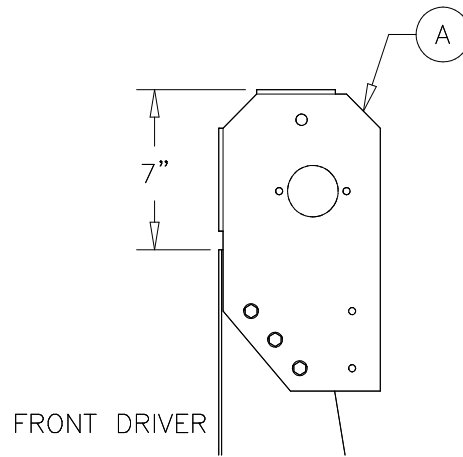

Figure 2
Procedure: Position the driver and passenger roll-tube brackets (A) along the front sides of the gravel box. The brackets should be mounted at a distance of 7" higher than the top of the box (see Figure 2). Using a 11/32" drill bit, drill 3 holes through the predrilled holes in the brackets and through the box. Fasten the driver and passenger roll-tube brackets to the box with the 3/8"x1-1/4" self-threading bolts (B) provided.